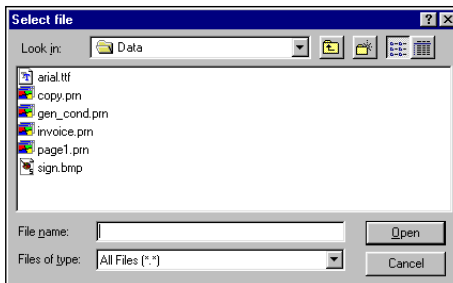

Figure 13
- Click on the icon  and Figure 13 will appear se manual